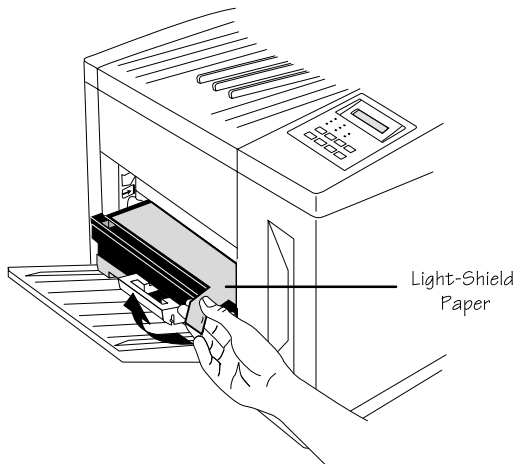

Fig. 2.27 Remove the Light-Shield Paper
6. Remove the black light-shield paper from the OPC belt by pulling the tab on the front as shown in figure 2.27 and pulling the paper straight out of the printer.